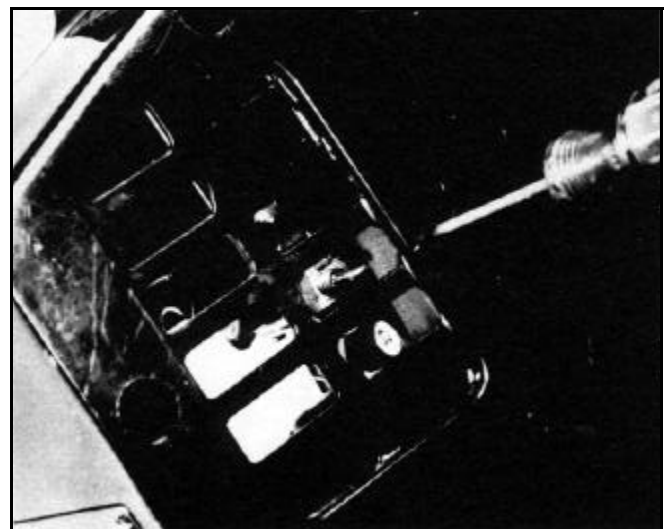

Figure 202
1. Mixture Adjustment Screw (Figure 202) – Close the screw by gently rotating it clockwise until a slight seating resistance is felt. Next, rotate the mixture adjusting screw one turn counterclockwise.